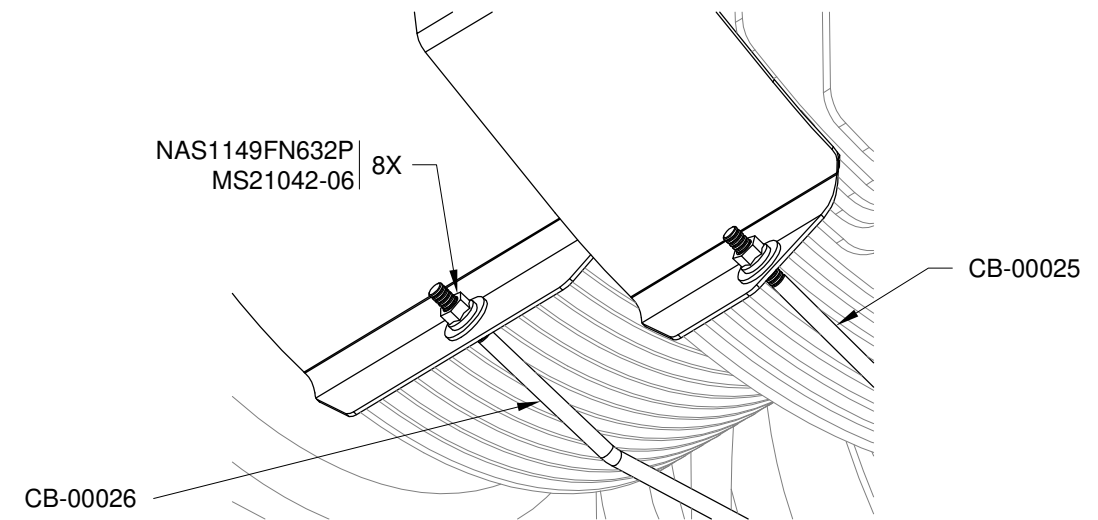

FIGURE 3: ATTACH TENSION RODS
Step 6: Attach the tension rods to the baffles through the holes in the lower flanges as shown in Figure 3.